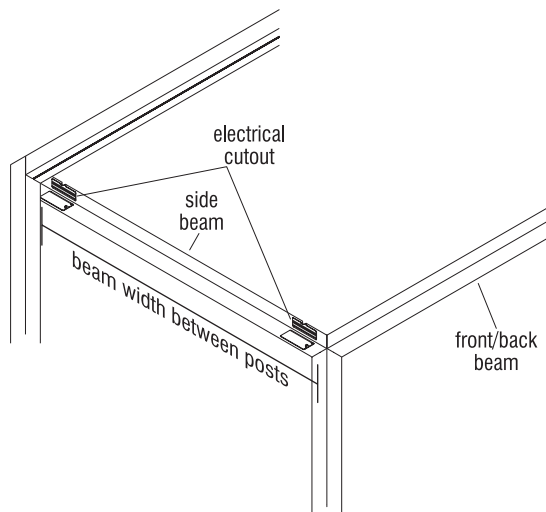

Figure 1 - Measure For Evoke Ceiling Rail
1. Locate the side beam with electrical cutouts to receive an Evoke Wall panel. Determine which pre-sized ceiling rail is required based on beam width between the posts (Figure 1).
2. Position the pre-sized ceiling rail up under the center of the beam, between posts. Align and center the ceiling rail at the underside of the beam, and install the ceiling rail to the beam using  $\frac{1}{4}$ -14 x  $\frac{7}{8}$ " Tek screws provided through each ceiling rail mounting hole (Figure 1 & Detail A).